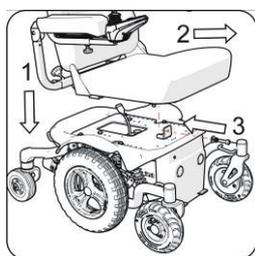

Figure 5-146
- 5.3.16.1 Put the captain seat on the chassis (1) and move it forwards (2).(Figure 5-146)